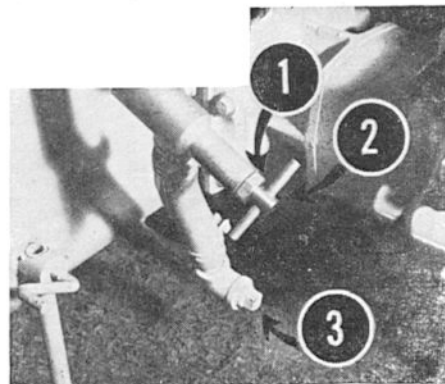

Figure 7
**OPERATING THE SPRAYER.** Loosen the lock nut, # 1 in figure 7, on the handle of Pressure Relief Valve. Turn the handle counter-clockwise approximately ten turns. Close the Gun by turning the handle clockwise. Start the tractor engine with the Attachment Clutch Control in the "out" position. Engage the attachment by operating the Attachment Clutch Control. Set the throttle between  $\frac{1}{4}$  and  $\frac{1}{2}$  open. **NEVER OPERATE AT**
Drain all material from the Tank by removing the Drain Plug, 3 in Figure 7. Spray materials can be drained into a suitable container for storage.